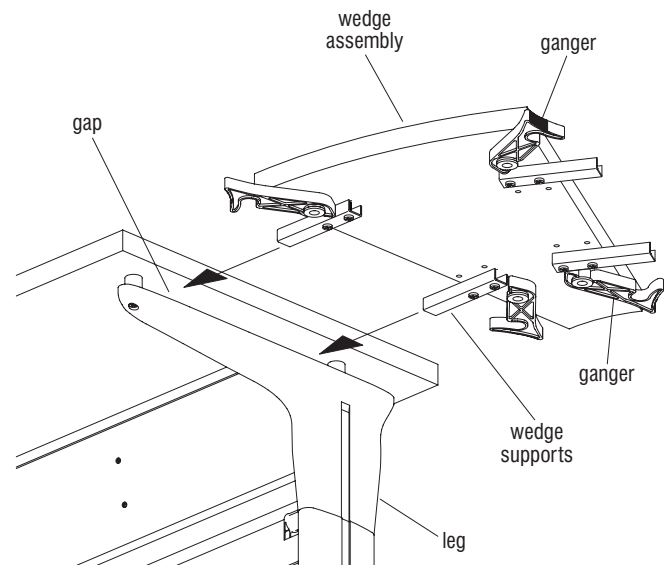

Figure 2
4. Assemble the wedge to the first table by sliding the wedge supports into the gap between the top of the leg and the underside of the worksurface (Figure 2).